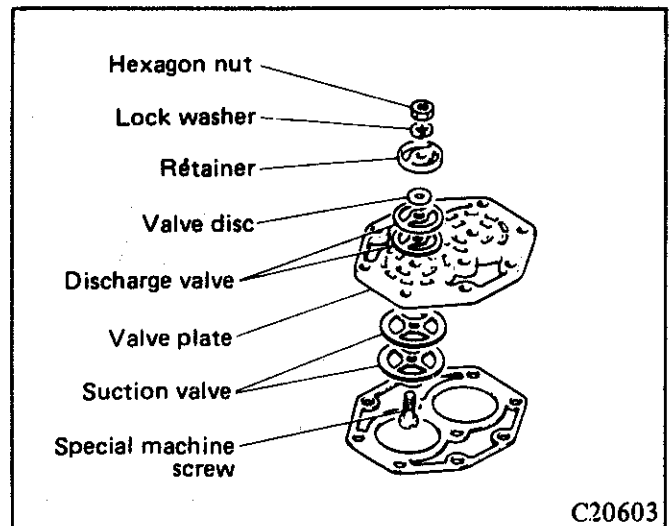
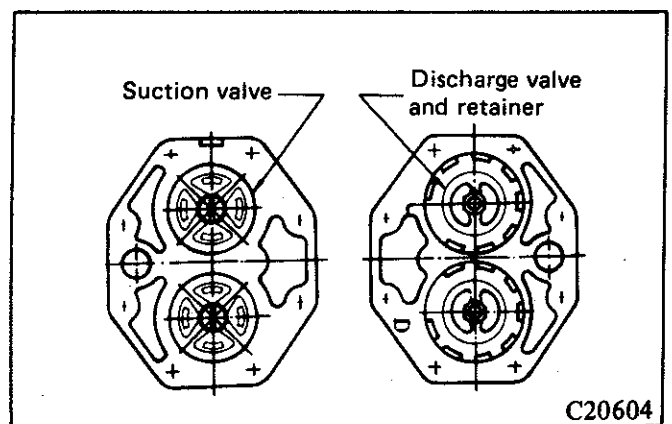

Fig. 68—Valve assembly
Fig. 69—Discharge valve, retainer and suction valve mounting positions
(9) Assemble the valve plate as shown in Fig. 68. Install the discharge and suction valves as shown in Fig. 69.